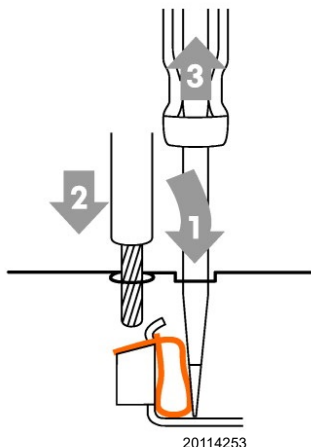

Fig. 31
- Insert the previously stripped cable and remove the screwdriver. Make sure the cable is securely fastened Fig. 31.